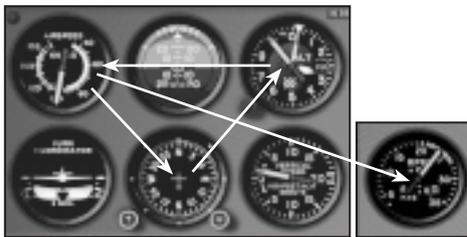

Figure 16 *The scan for leveling off from a climb at cruise airspeed.*
1. To level off from a climb to cruising airspeed (figure 16), lower the nose on the attitude indicator.